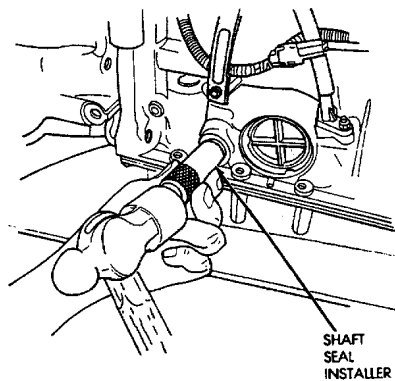

Fig. 24 Installing Manual Valve Shaft Seals
- (9) Inspect the manual valve shaft and sector. Replace either component if worn or damaged.
(10) Coat replacement shaft seals with petroleum jelly and seat them in the case (Fig. 24).